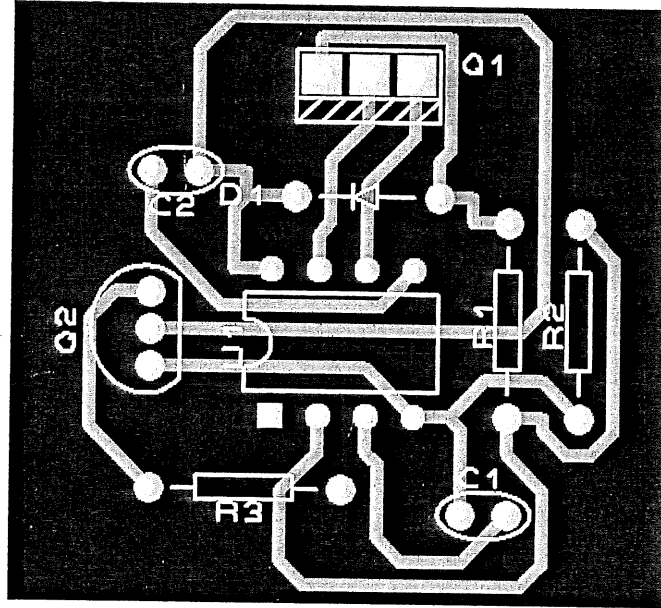

Figure 2
- d) By referring to the PCB diagram given in Figure 2, construct the schematic circuit according to the PCB diagram connection. (13 marks)